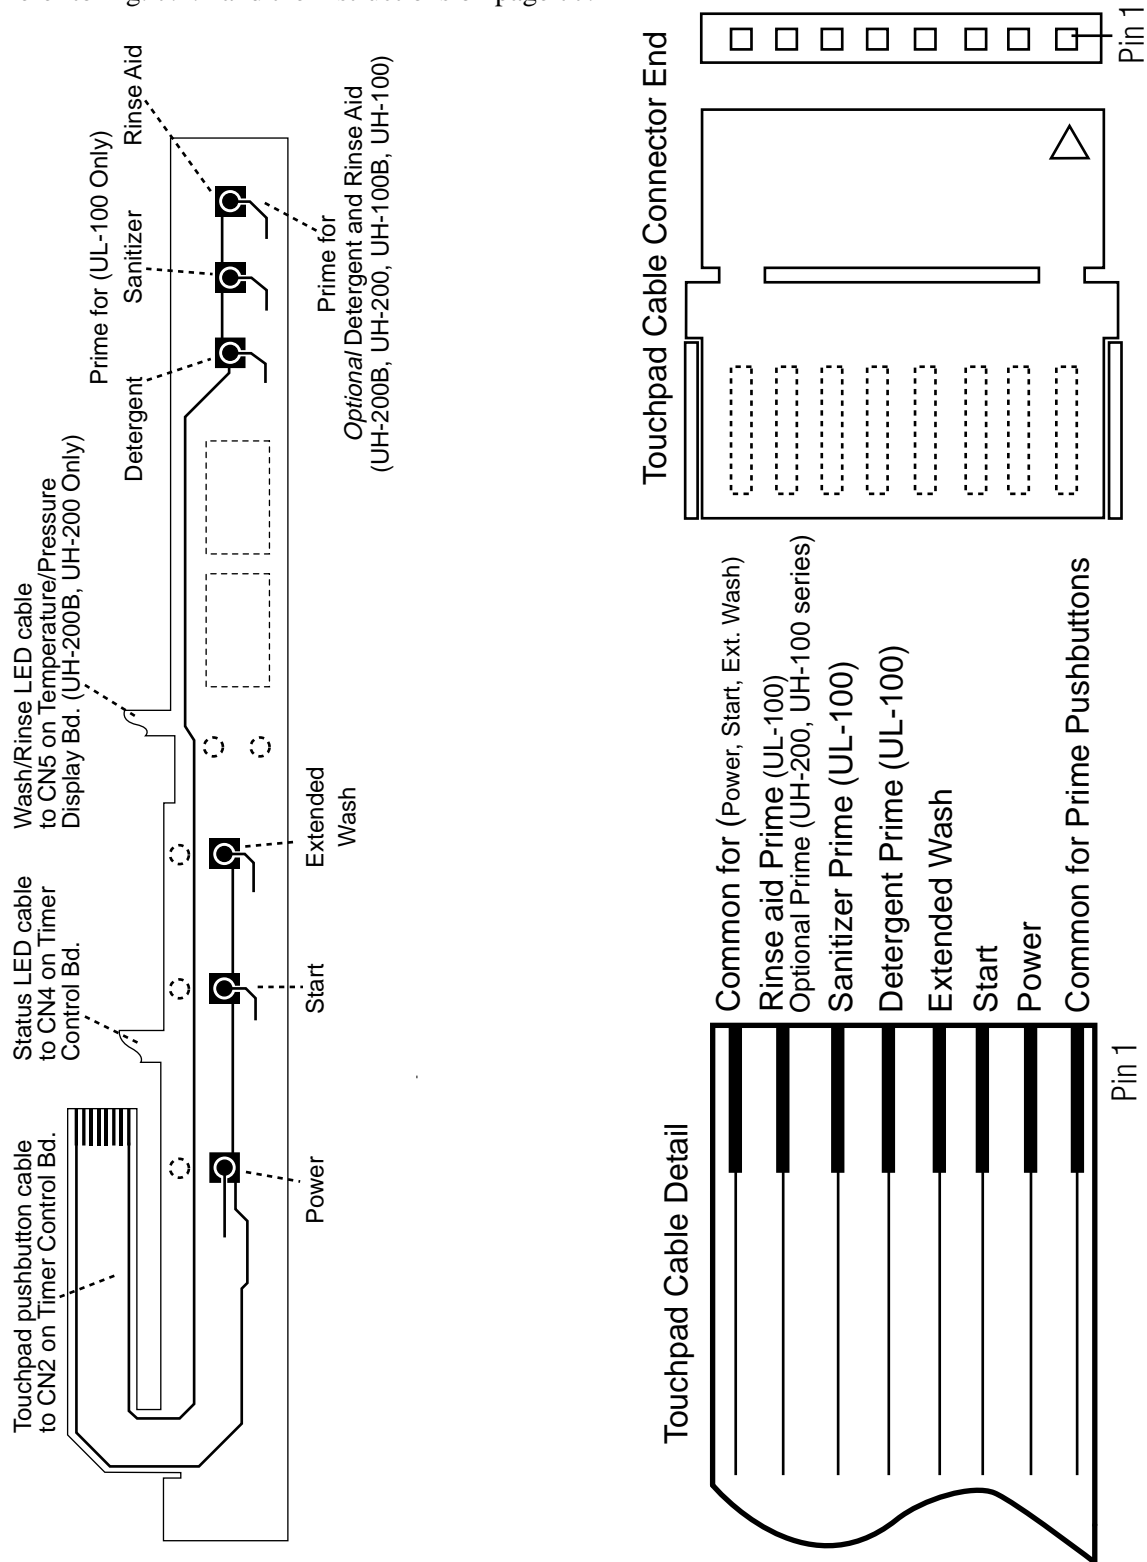

Figure 7.4.3
3. Make sure the cable is oriented to match the detail in Fig. 7.4.3.
Fig. 7.4.3 shows the prime pushbuttons for all models. In reality, there are three separate touchpad/display assemblies.